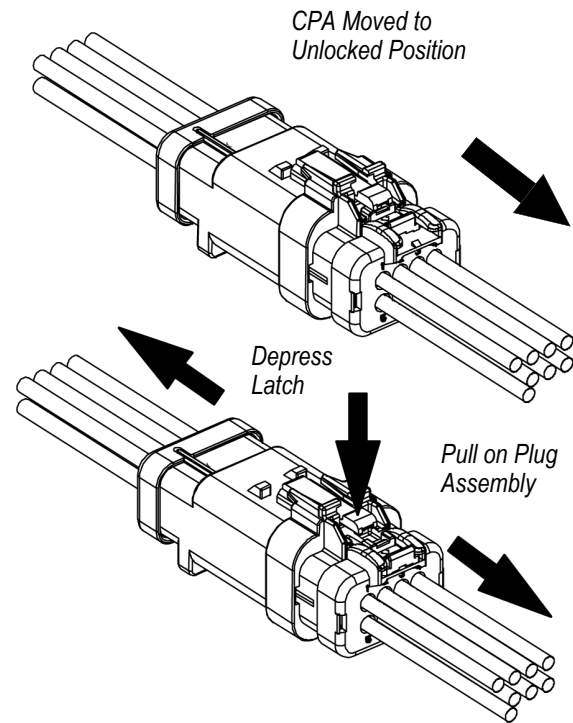

Figure 9
2. Then depress the end of the connector latch and pull on the rear of the plug assembly to separate the mated connector assembly. See Figure 9.